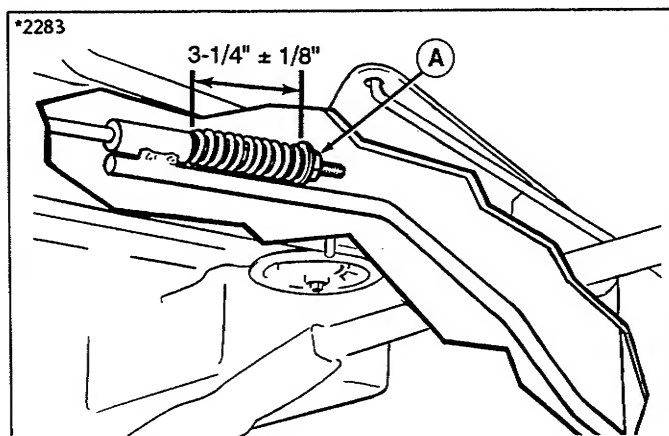

Figure 36. Gear Models
2. The spring should be compressed to 3-1/4" ($\pm 1/8$ ") Turn adjustment nut (A, figure 36) as necessary for correct spring length.